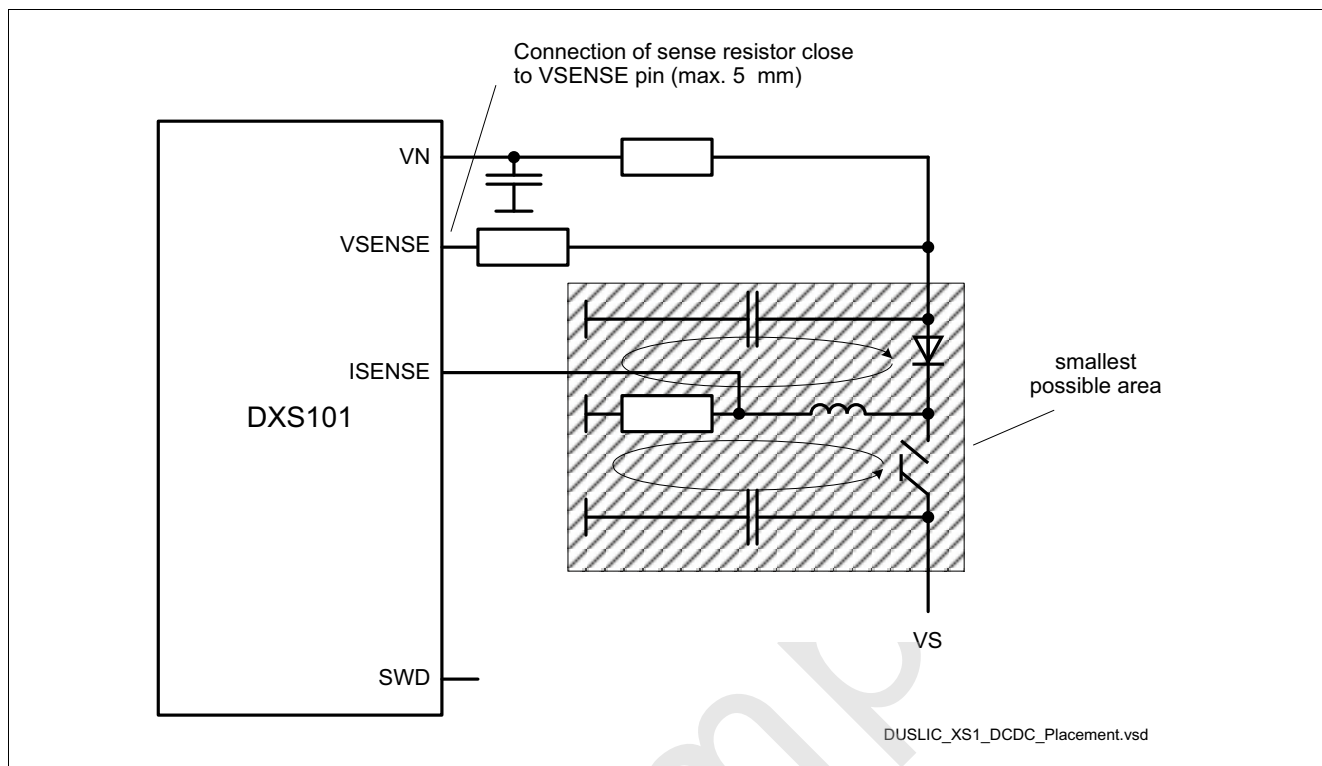

Figure 30 DC/DC Converter Component Placement
- The components of the DC/DC converters must be placed on the smallest possible area, the traces must have a minimum width and coupling to the analog part must be minimized to avoid noise (**Figure 30**).